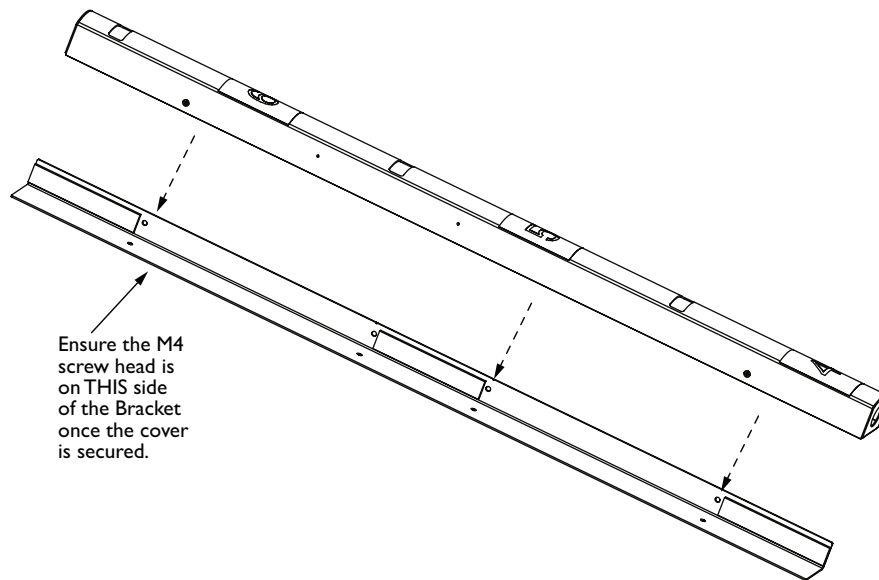

Figure 8 Accessory Wall Bracket (MT-HC)
1. Refer to **Figure 8** and **Figure 9** when installing this accessory.